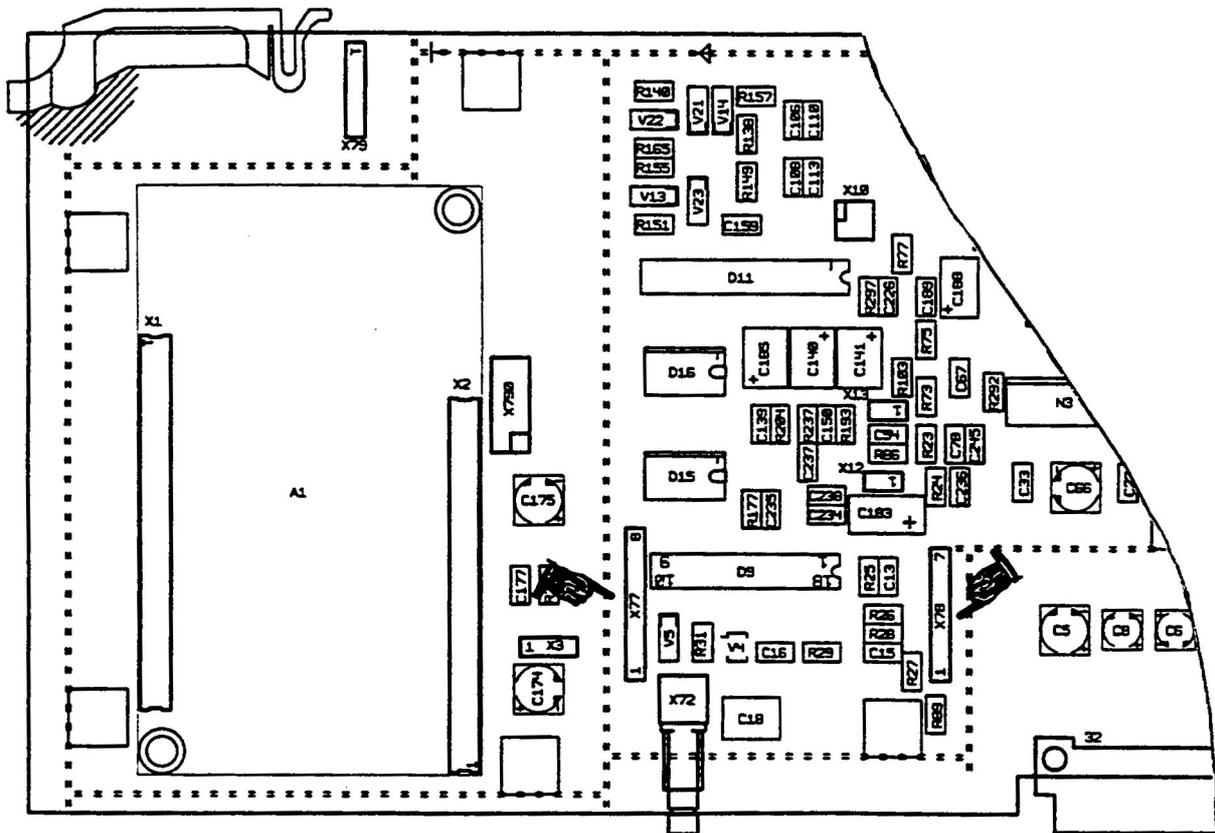

Fig. 4.7 Location of Terminal Strips X77 and X78
3. Cautiously pull IF Converter R&S UX 895 out of terminal strips X77 (see Fig. 4.7) and X78 towards the top.